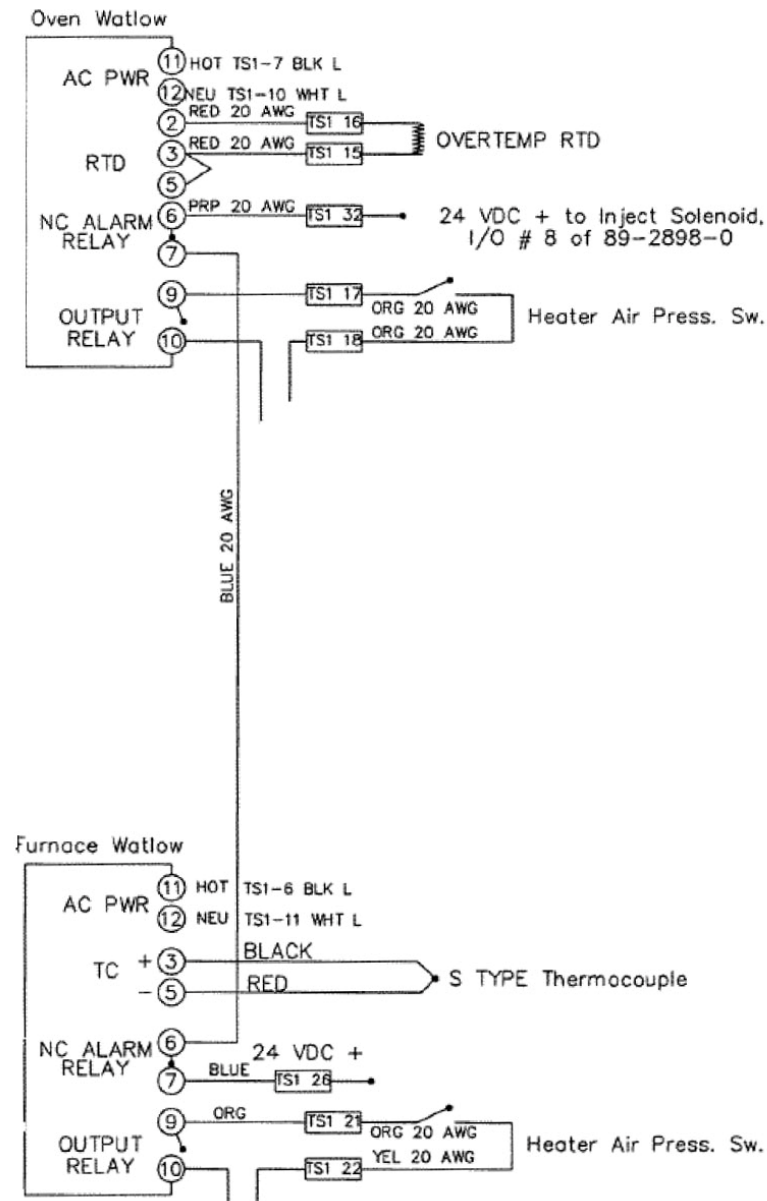

Figure 3. Wiring diagram for Series 93 in a SOLA II system
- Figure 3 shows the wiring for the Series 93 controller in a SOLA II system.